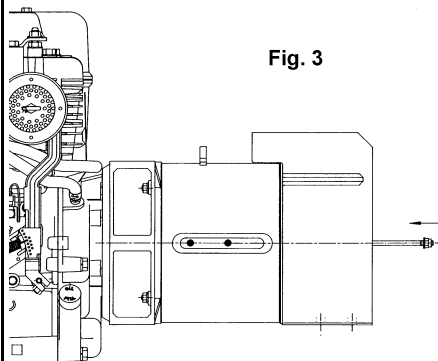

Fig. 3
-) screws the self-locking nut onto the central bolt and insert the latter into its housing (figure 3)
SPANNUNGREGLER (Abb. 3 Seite 31)